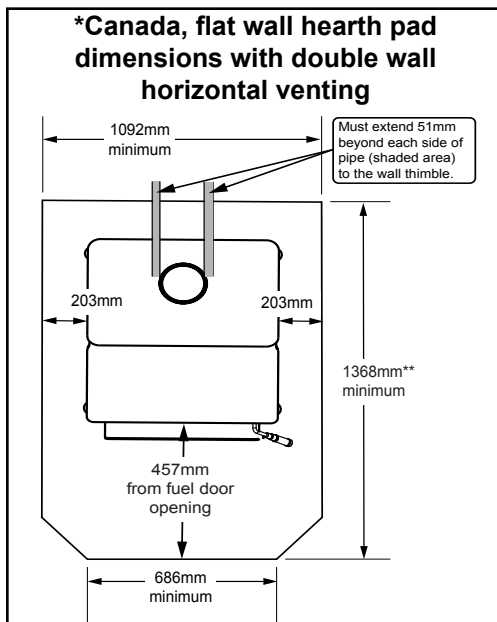

Figure 11.2 - \*\*this dimension will vary depending installation.
**In Canada,** similar floor protection must be provided 18 inches (457mm) in front and 8 inches (203mm) from the sides and rear of the appliance unless the hearth pad is placed against the wall (**Figure 11.2**). Then the clearance may be reduced using double wall pipe and the **Clearance to Combustibles** table listed on page 12.
**\*Exception:** Non-combustible floor protector must extend beneath the flue pipe when installed with horizontal venting and extend 2 inches (51mm) beyond each side; **See Figure 11.2**